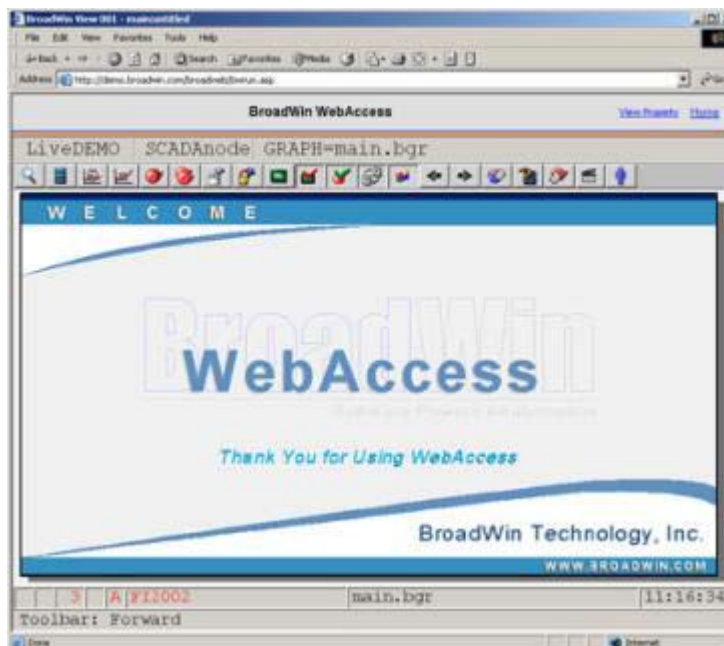

Figure 8.27 - default Main graphic display
6. The MAIN graphic display for your system appears. The default MAIN graphic supplied with WebAccess is shown below (Figure 8.27). Yours will probably look different
- a. Select  on the standard Toolbar (Figure 8.27)